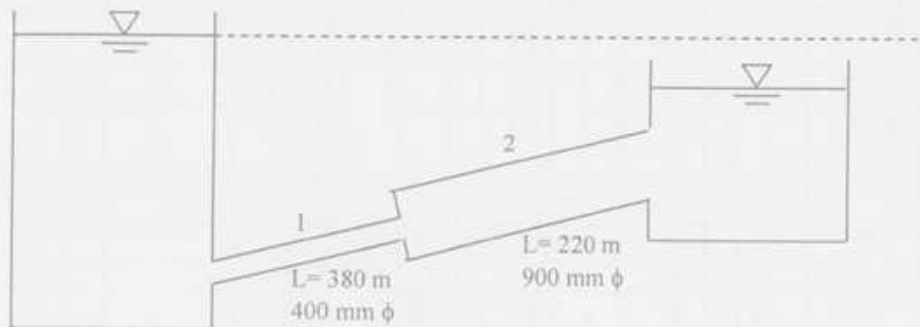
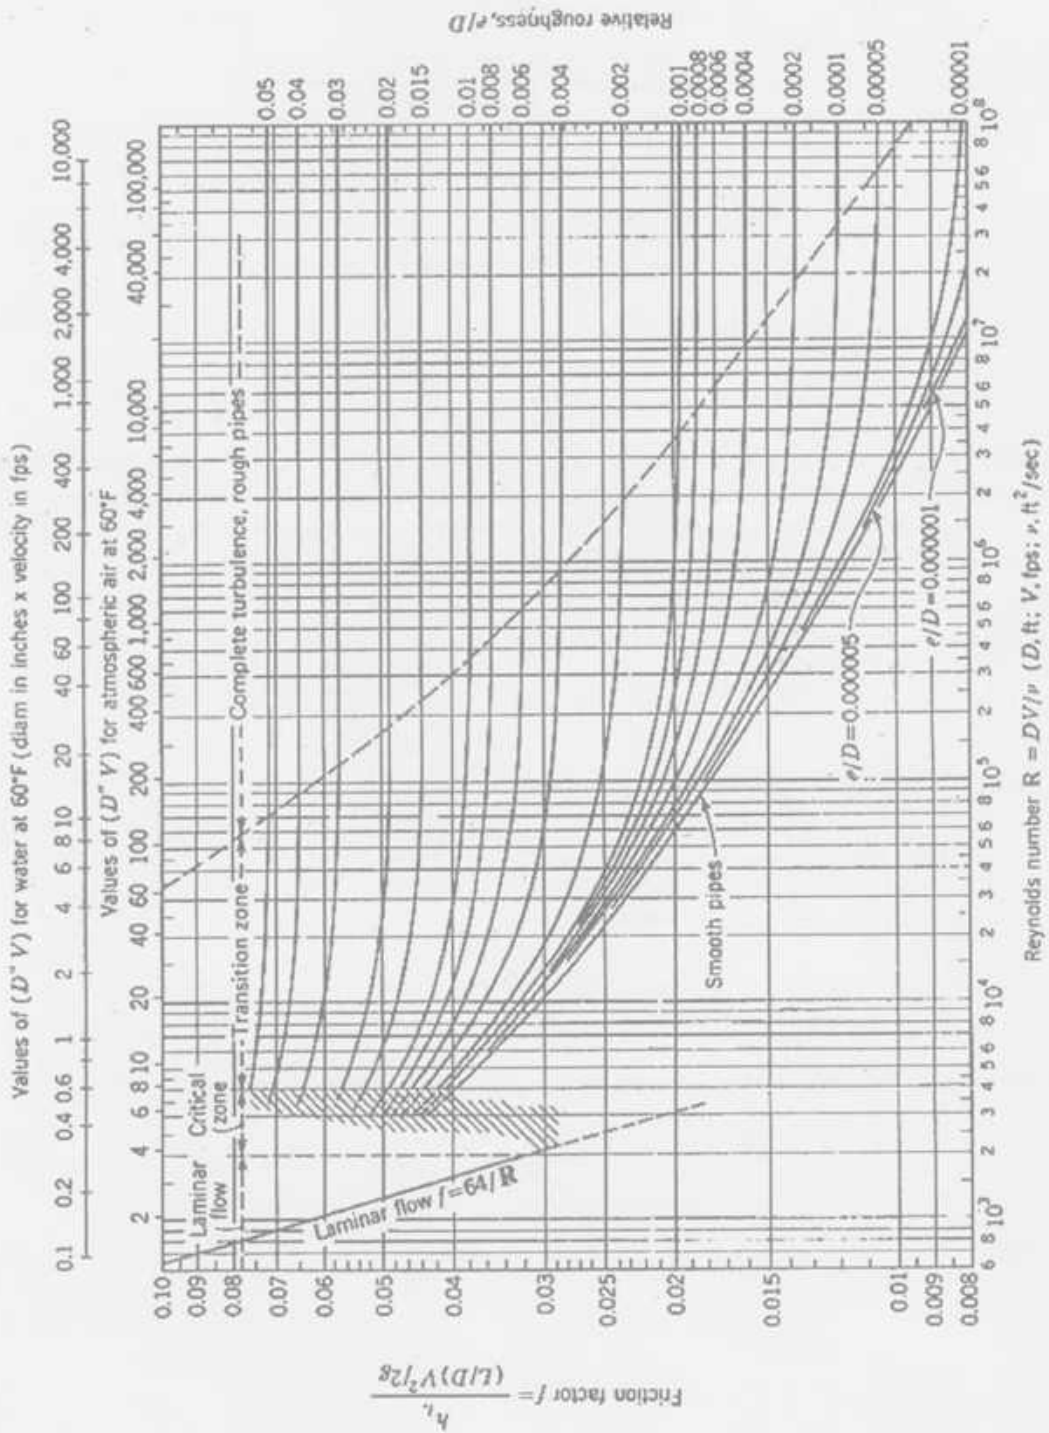

Figure 10
Figure 11: friction factor for pipes (Moody Diagram).
14. For the frame abc shown in Fig. 10, calculate the
8. (a) Two reservoirs with a difference in water surface elevation of 10 m are connected by two pipes in series as shown in figure 10. The equivalent roughness heights of the two pipes are 2.0 mm and 0.5 mm respectively. Find discharge by equivalent velocity head method. Given $\nu = 2.5 \times 10^{-6} \text{ m}^2/\text{s}$. Use Moody diagram (figure 11) for friction factor. (16)